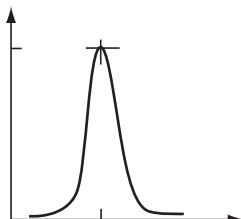

FIGURE 7.38
- 25** A circuit that passes (or blocks) only a narrow range of frequencies is called a *high Q* circuit. Figure 7.38 shows the output curve for a high Q circuit.